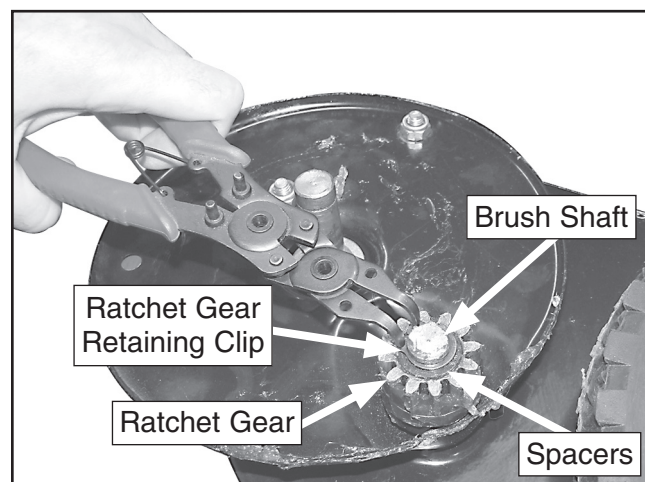

Figure 13. Ratchet gear assembly.
2. Remove the retaining clip from the brush shaft, then remove the spacers (**Figure 13**).